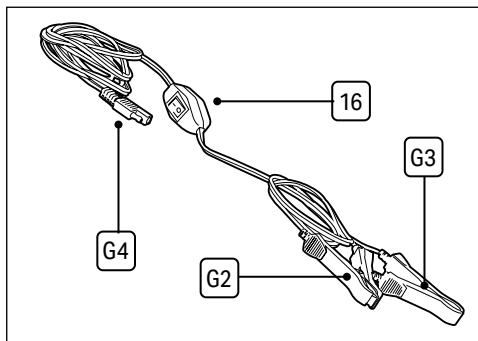

Fig. 12
7.2 Connect Remote Switch to Vehicle Battery (Fig.12)